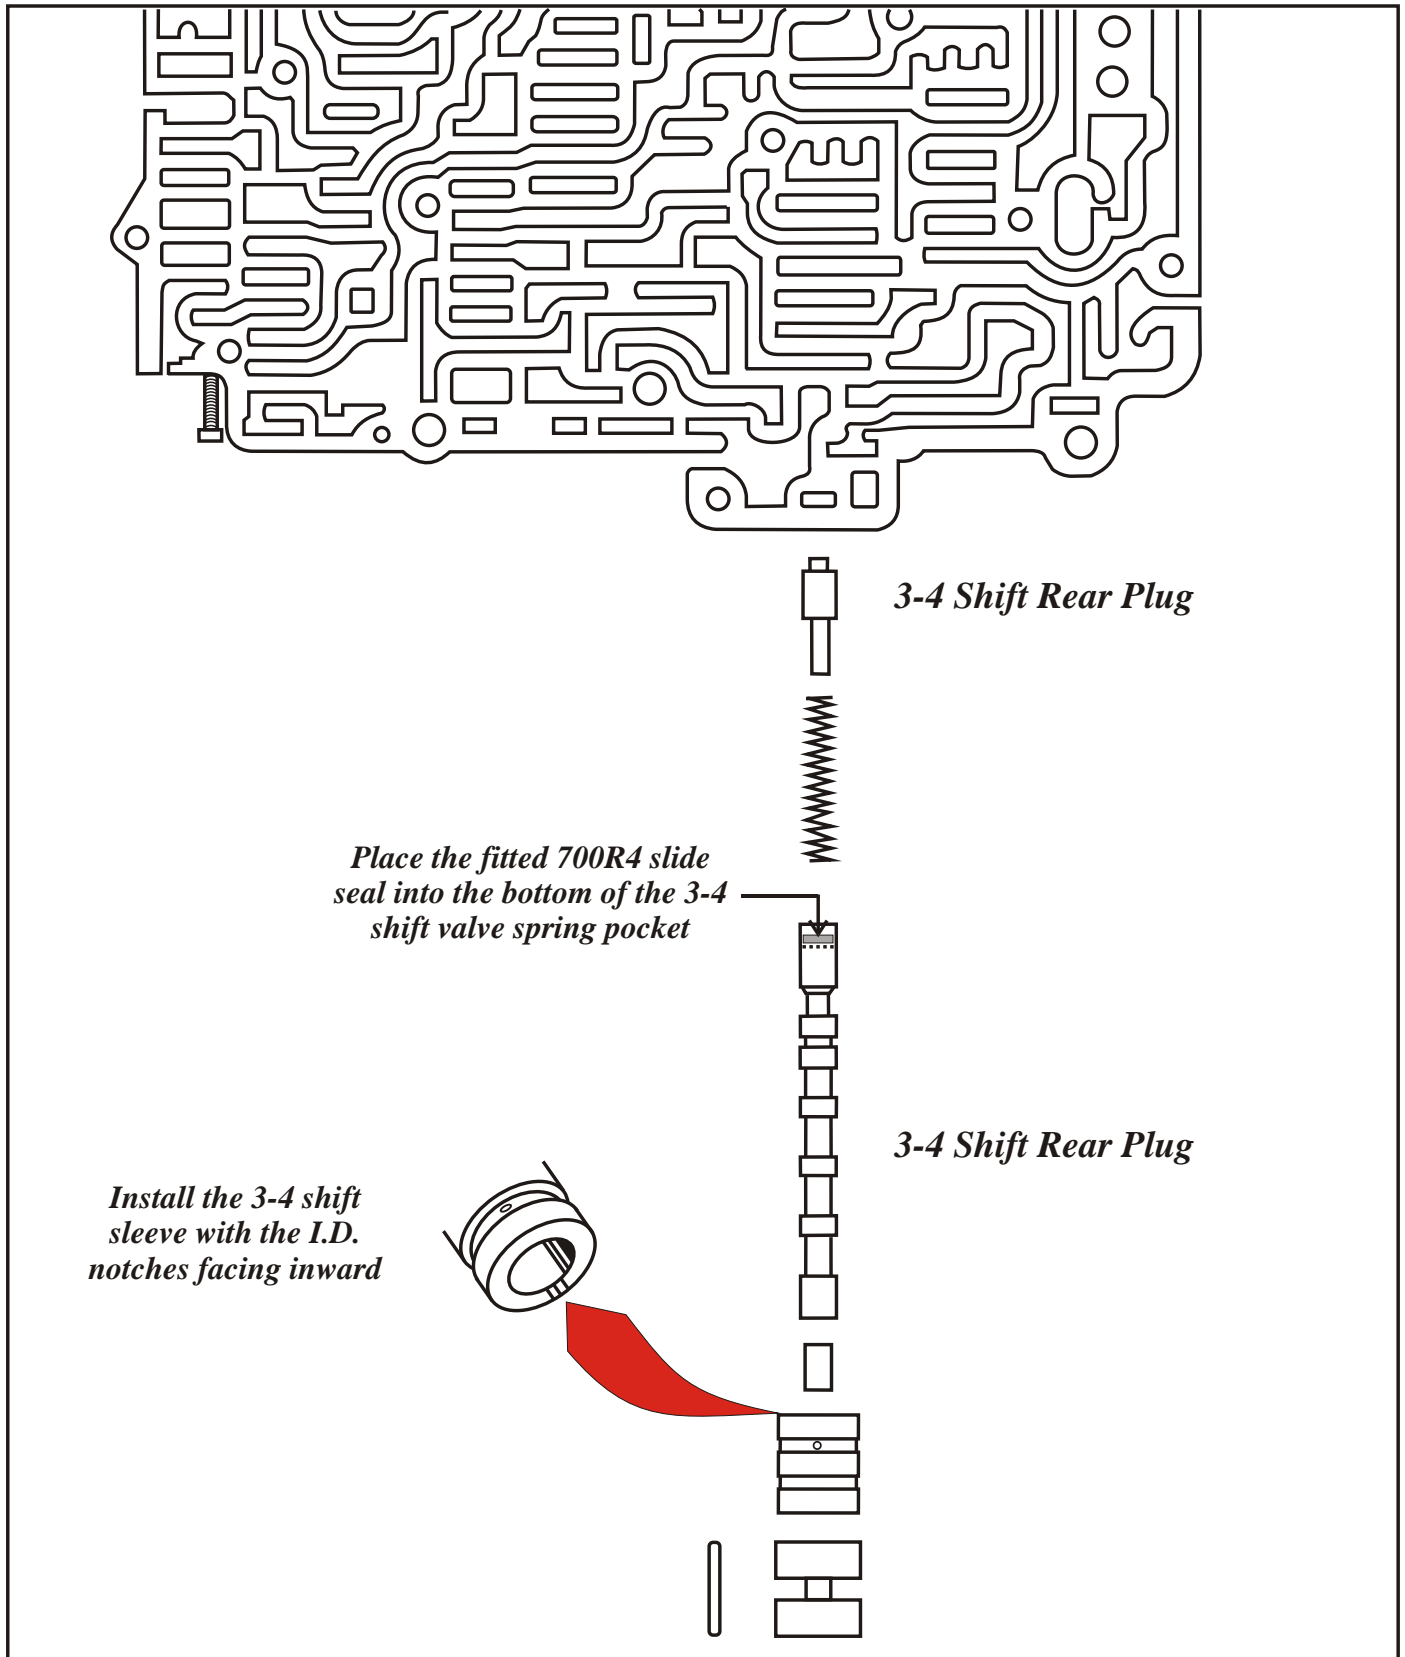

Figure 7
4. Locate the 3-4 shift valve line-up in the main valve body as shown in Figure 7. It is common for the 3-4 shift plug to over travel and get stuck in the bore. This prevents the 3-4 shift valve from fully stroking causing the no 3-4 shift complaint. To fix this concern, acquire a slide seal (**not the O ring**) from a 700R4 or 2004R pump. Cut a piece off that will fit into the 3-4 shift valve spring pocket as shown in Figure 7. This added shim which is approximately .093" thick will prevent the 3-4 shift plug from over traveling causing the no 3-4 shift complaint. Nor will it increase spring tension to cause a later 3-4 shift.
5. On assembly of the 3-4 shift valve, be sure to place the I.D. markings inwards on the 3-4 shift sleeve as shown in Figure 7.